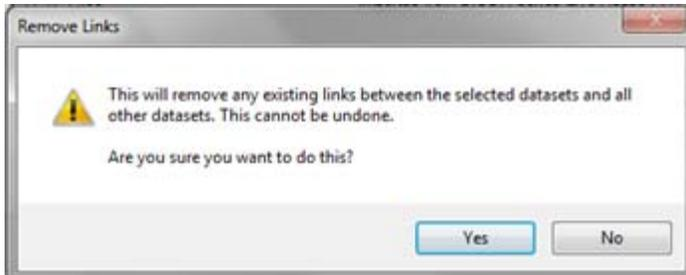

Figure 5-9. Remove Links Window
3. The Remove Links window to confirm unlinking opens (see Figure 5-9).